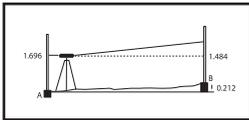

Fig.11
- Move the level and set it up about 1m from A (Fig.11)